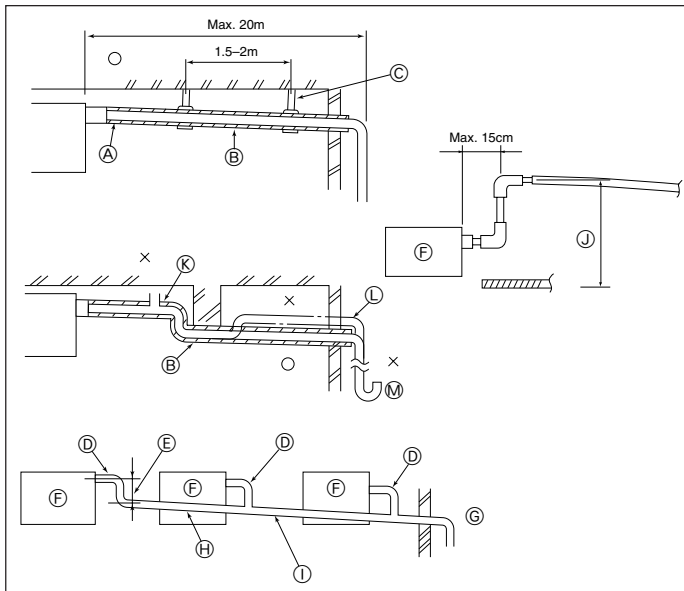

Fig. 6-1
6.1. Drainage piping work (Fig. 6-1)
- ① Correct piping
- ② Wrong piping
- ③ Insulation (9 mm or more)
- ④ Downward slope (1/100 or more)
- ⑤ Support metal
- ⑥ Air bleeder